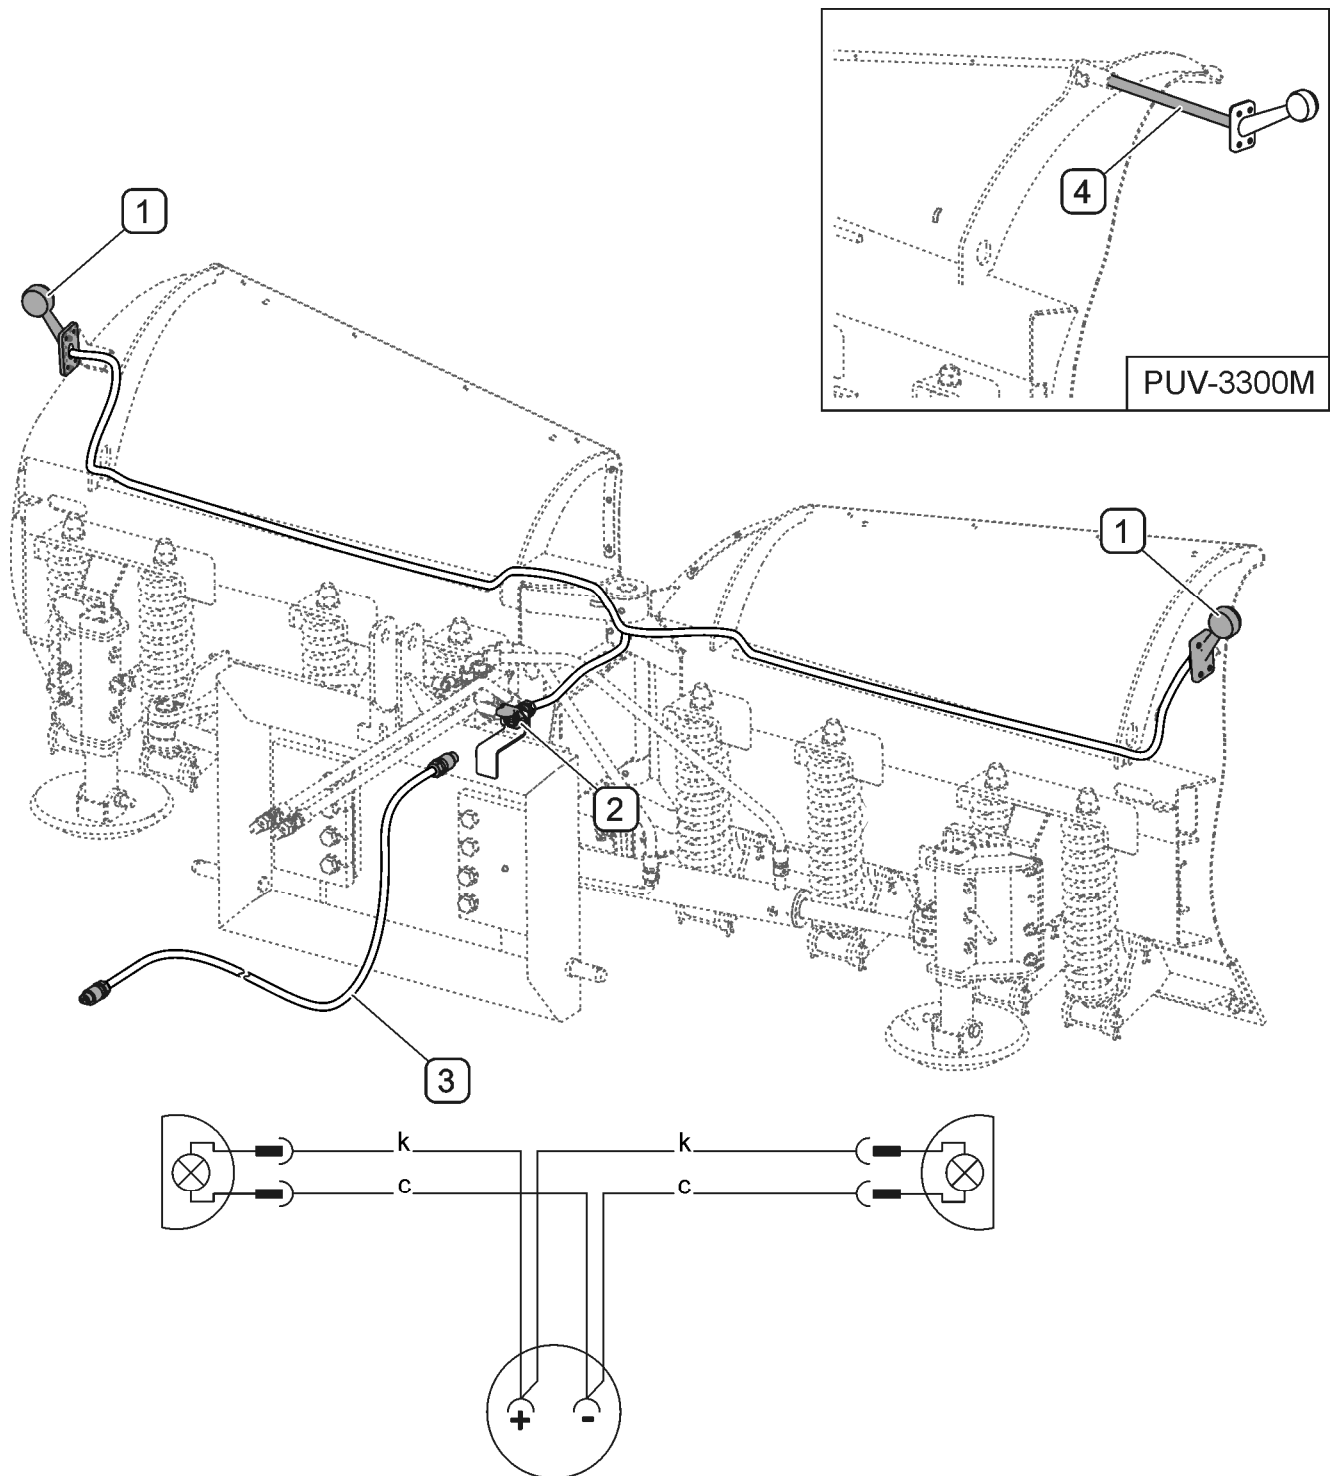

FIGURE 3.6 Design of the clearance lamps electrical system
(1) - clearance lamps; (2) - 3-pin socket; (3) - connecting cable; (4) - adjustable bracket of clearance lamps (only PUV-3300M snow plough)
The electrical system (FIGURE 3.6) is used for supplying the clearance lamps (1) of the snow plough and it is supplied using connecting cable (3) from 3-pin socket or 7-pin socket in the carrying vehicle (depending on machine version).